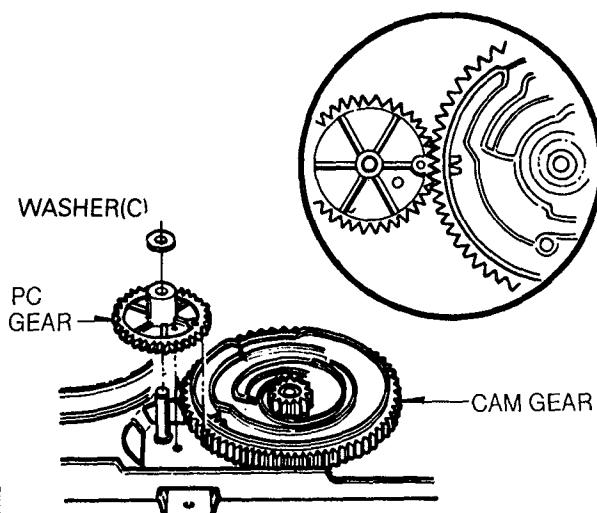

Fig. B-26 PC Gear
- ① Align the Projection of Rack Gear T with the hole of Loading Gear
- ② Drive the Rack Gear F.L in the direction of arrow(D).
- ③ Hole of Cam should be aligned with the hole of chassis, and the groove(■) of Cam Gear should be aligned with the hole of PC Gear (Fig. B-26)
26. PC Gear(Fig. B-26)
- ① The Groove of PC Gear should be aligned with the groove(V) of Cam Gear, and another hole of it should be aligned with the hole of chassis (Fig. B-26)